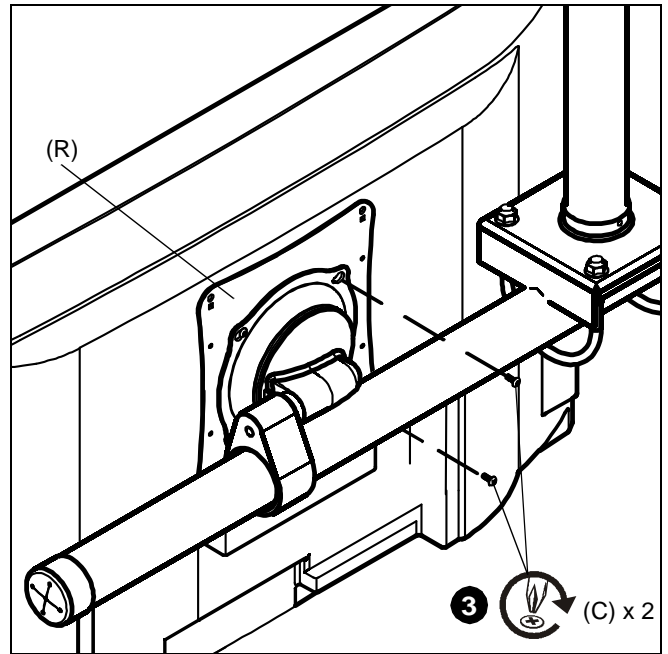

Figure 5
3. Hold display so that display back is against Centris cup and install two Phillips pan head machine screws (C,D, or E) through right mounting holes in Centris cup and into right mounting holes in VESA plate (R). (See Figure 5)